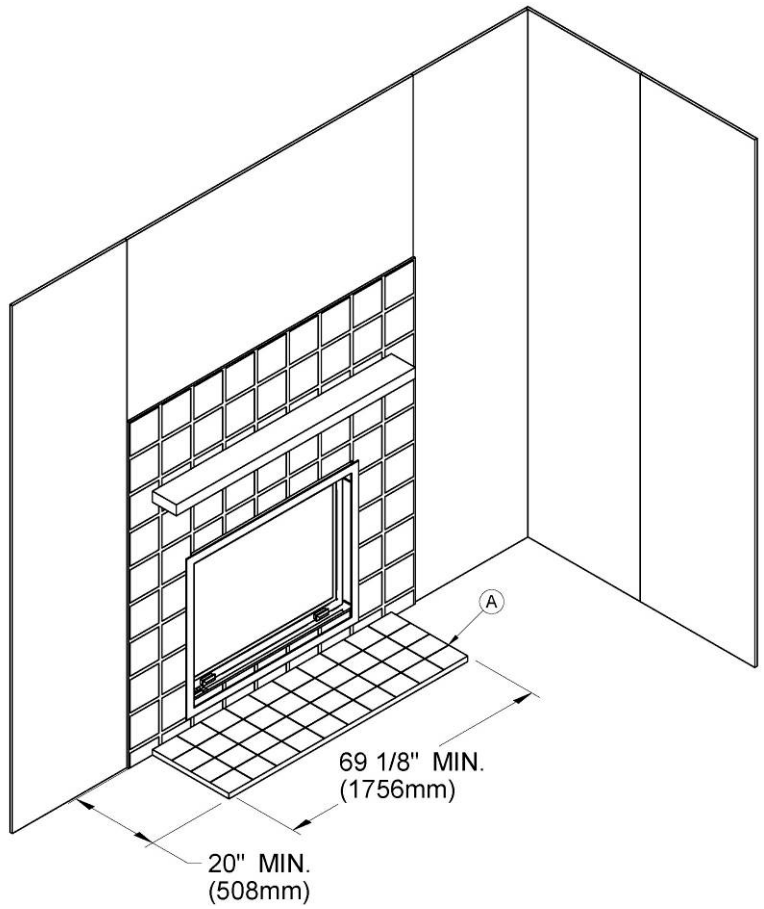
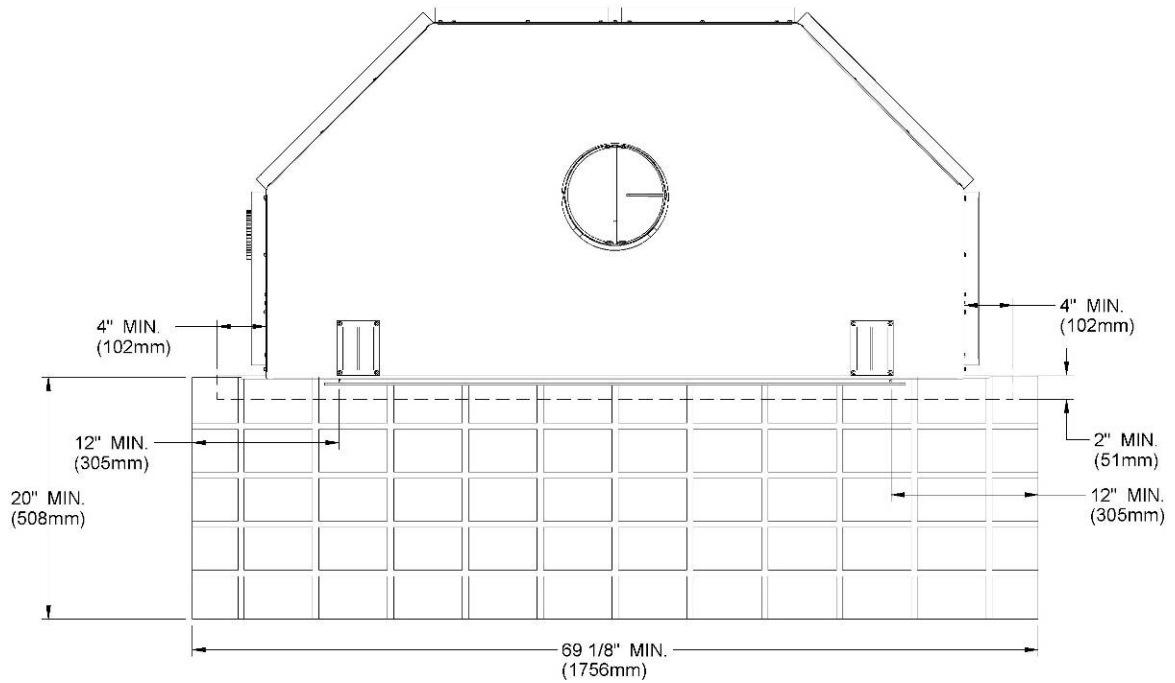

Figure 4
Figure 5
The hearth extension floor area (see (A), **Figure 4**) must extend at least 20" (50 cm) in front and at least 12" (30 cm) on each side of the door opening (see **Figures 5** and **6**). The joint between the hearth extension and the fireplace hearth needs to be made of non-combustible material such as sheet metal or sand-cement grout (not included) as shown on **Figure 6**.
WARNING: THE HEARTH EXTENSION IS TO BE INSTALLED ONLY AS ILLUSTRATED (see Figures 5 and 6.)